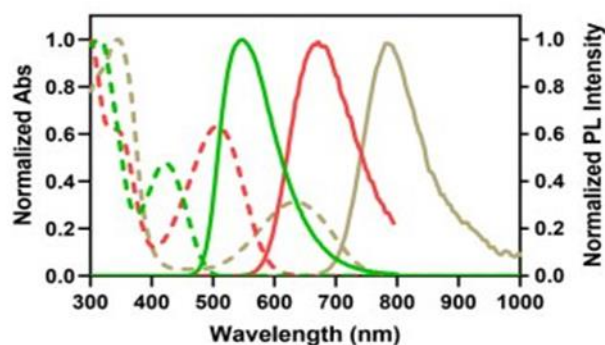

Figure 2. Excitation (dashed) and emission (solid) spectra of LuminiCell Tracker™ 540 (green), 670 (red) and NIR-810 (gold).
Figure 2. (A) HCI-EC-23 endometrial cancer cells were incubated with 2 nM LuminiCell Tracker™ reagent (SCT017) for 4 hours before being imaged. (B) Red, LuminiCell Tracker™ reagent (SCT017). (C) fluorescence merged with brightfield.